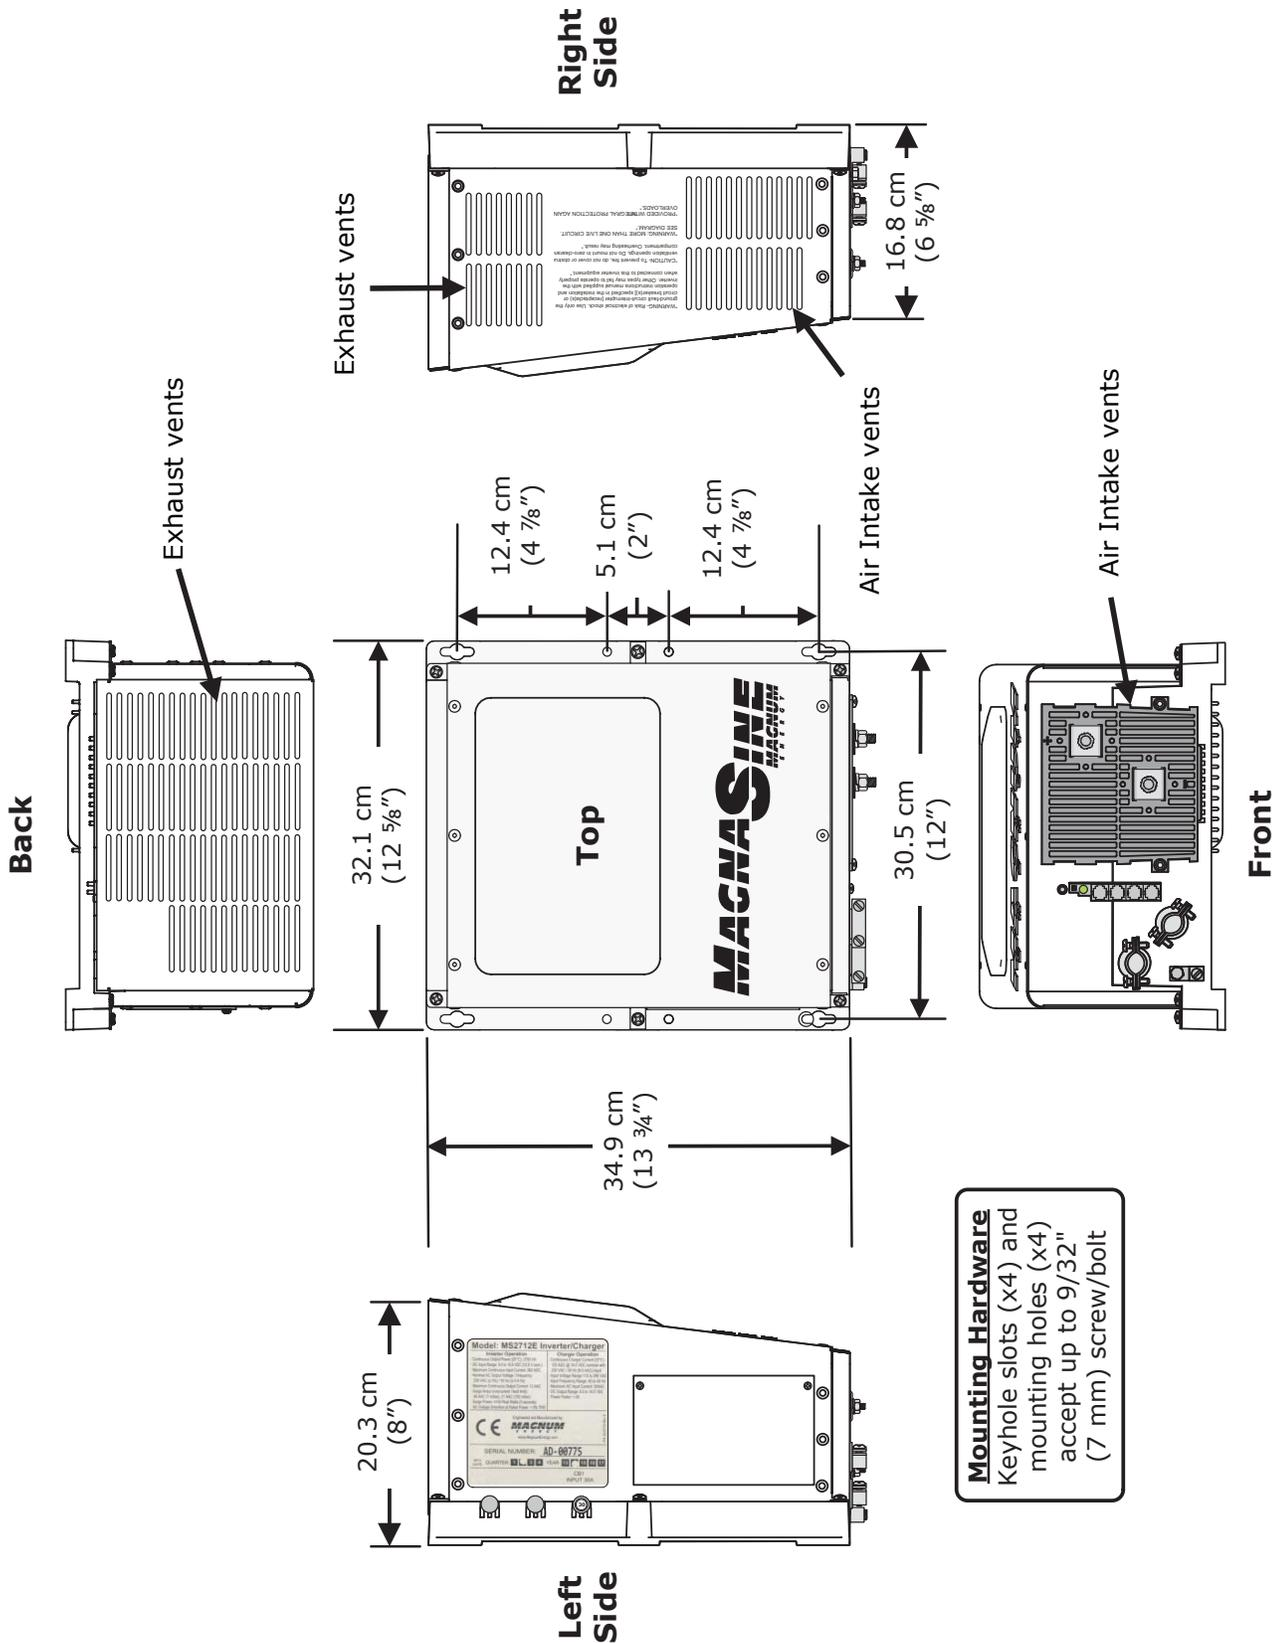

Figure 2-3, MS-E Series Dimensions and Side Reference
- 9 **Intake Air Vents** – ventilation openings to pull in air to help keep the inverter cool for peak performance. The intake air vents are located on the front side and at the front on the right side; see Figure 2-3 for the locations of the air vents.
- 13 **Exhaust Air Vents** – ventilation openings that allow heated air to be removed by the internal cooling fan. The exhaust air vents are located on the back side and at the rear on the right side; see Figure 2-3 for the location of the air vents.
Accessible – Do not block access to the inverter’s remote control and accessory ports, as well as the inverter’s controls and status indicator. Also allow enough room to access the AC and DC wiring terminals and connections, as they will need to be checked and tightened periodically. See Figure 2-3 for the MS-E Series’ inverter/charger dimensions.
After determining the mounting position, refer to the physical dimensions as shown in Figure 2-3, or use the base of the inverter as a template to mark your mounting screw locations. After marking the mounting screw locations, mount the unit with appropriate mounting hardware.